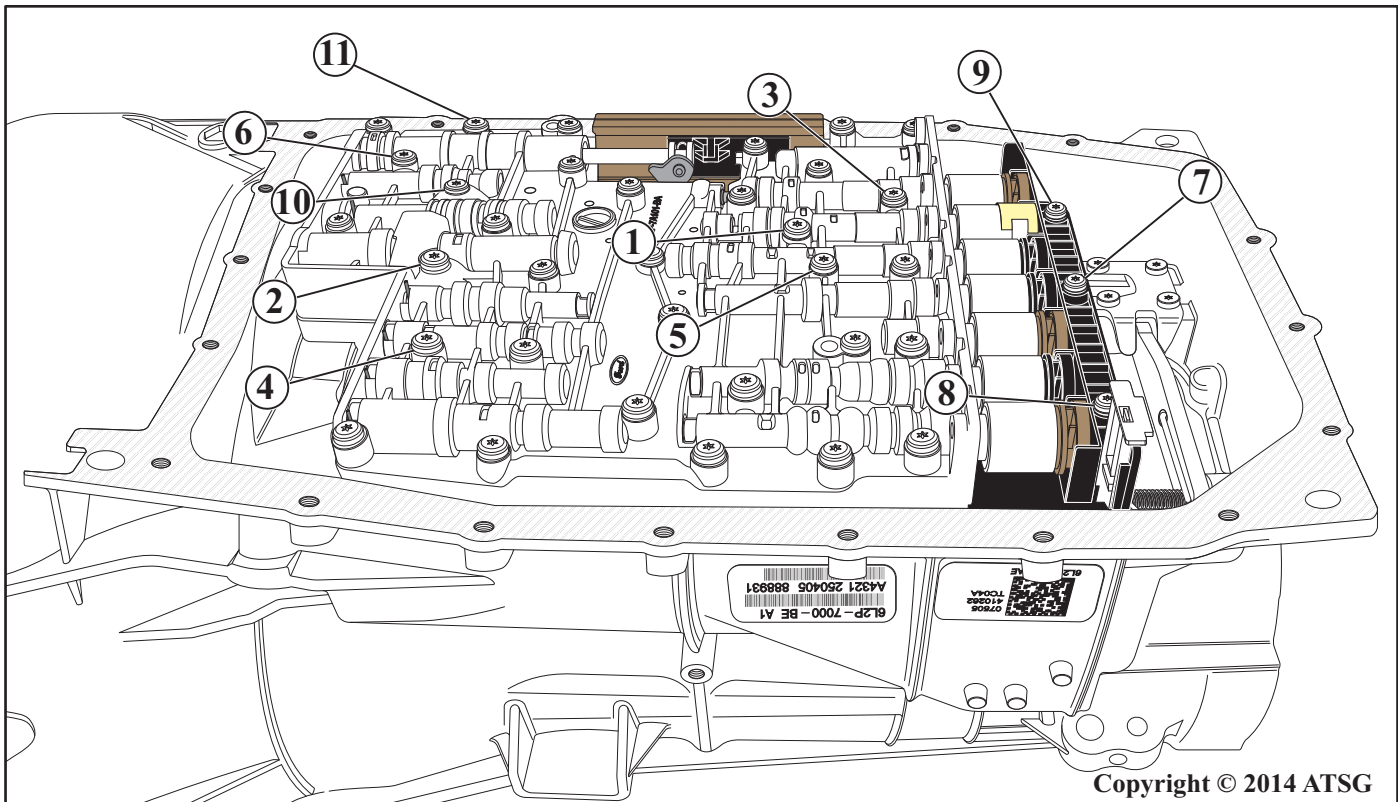

Figure 39
9. Remove the 11 mechatronic/main control valve body assembly attaching bolts from the valve body as shown in Figure 39.